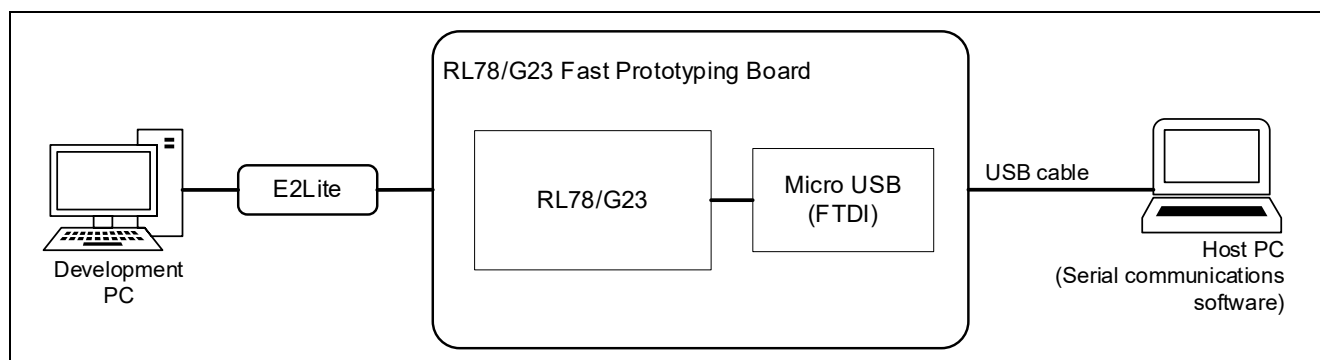

Figure 7.1 RL78/G23-64p Fast Prototyping Board Device Connection Diagram
1. Connect the USB port of the PC to the micro USB port of the RL78/G23-64p Fast Prototyping Board as shown in Figure 7.1, RL78/G23 Fast Prototyping Board Device Connection Diagram.